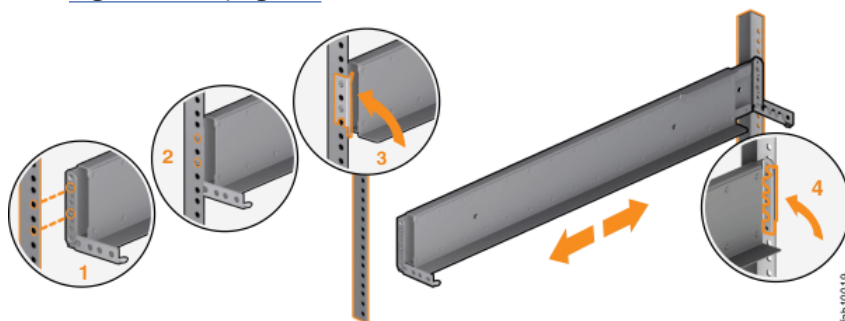

Figure 34. Closing the hinge brackets
9. Close the rear hinge bracket to secure the rail to the rack cabinet flange. (See Figure 34 on page 72.)
11. Close the front hinge bracket to secure the rail to the rack cabinet flange. See Figure 34 on page 72.